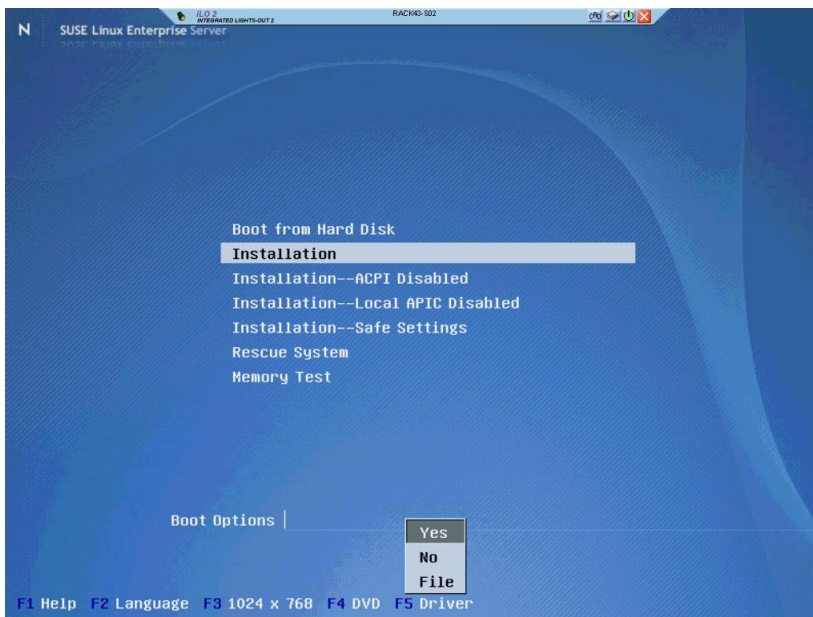

Figure 14 SLES installation
- Use the GUI to load the driver (Figure 14).